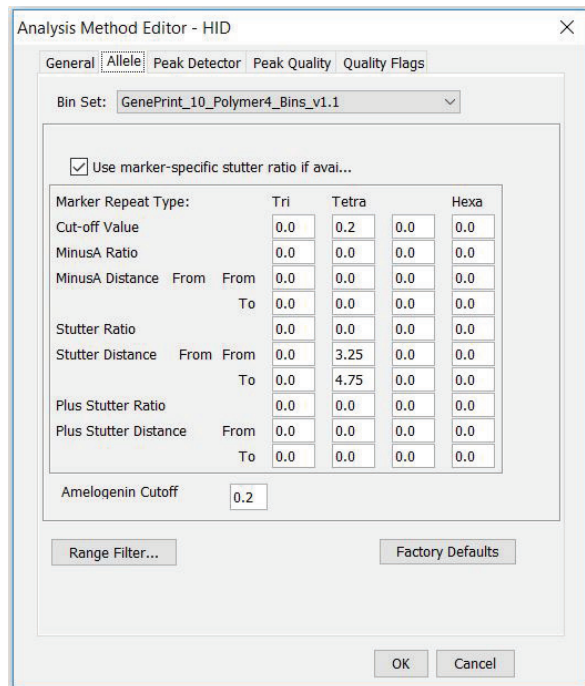

Figure 25. 'Allele Tab' settings.
5. To verify the correct bin settings, locate the new *GenePrint*® 10 Analysis Method at the bottom of the list of methods. Select the analysis method, and then choose **Open**. Select the Allele tab, and choose 'GenePrint_10_Polymer4_bins' from the drop-down menu at the top, if it does not already appear. Verify that all settings appear as shown in Figure 25.